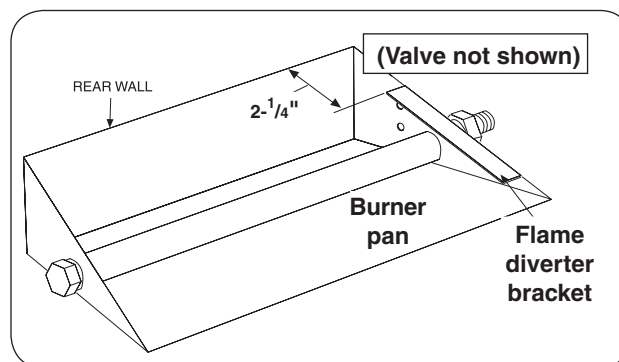

Fig. 8-1 Install diverter bracket (if applicable)
1. Place the flame diverter bracket over the side edge of the burner pan, near the location the safety control system pilot bracket will be attached. It should be placed **approximately 2-1/4"** from the rear wall of the burner pan (see Fig. 8-1).